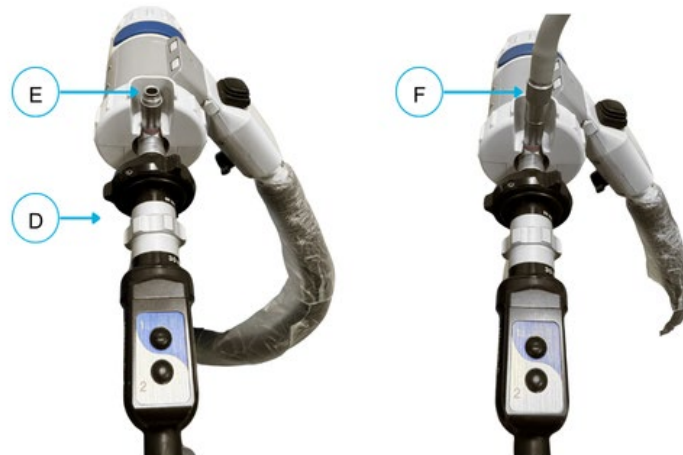

Figure 11-15: Cystoscopy Camera and Light
5. Attach cystoscopy camera to lens (D) (Figure 11-15).
6. Attach cystoscopy light (F) to the lens light port (E) (Figure 11-15).